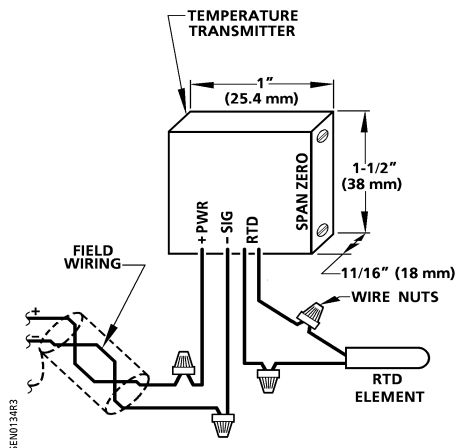

Figure 3. Analog Temperature Transmitter Wiring Connections.
9. Attach the junction box and conduit; pull wires and terminate (see Figure 3). Replace cover.
8. Attach the junction box and conduit; pull wires and terminate (see Figure 3).
9. Strip the field wires with wire cutters and connect the positive (+) 26V lead wire to the transmitter's PWR wire. Connect the signal lead wire to the transmitter's SIG wire. See Figure 3 and Table 1.